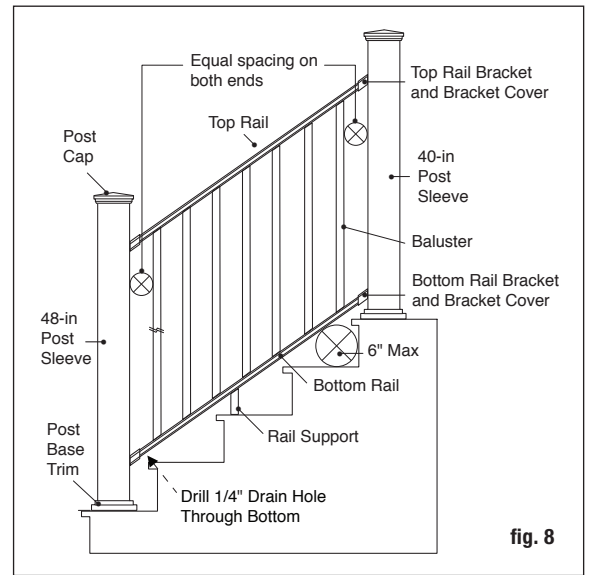
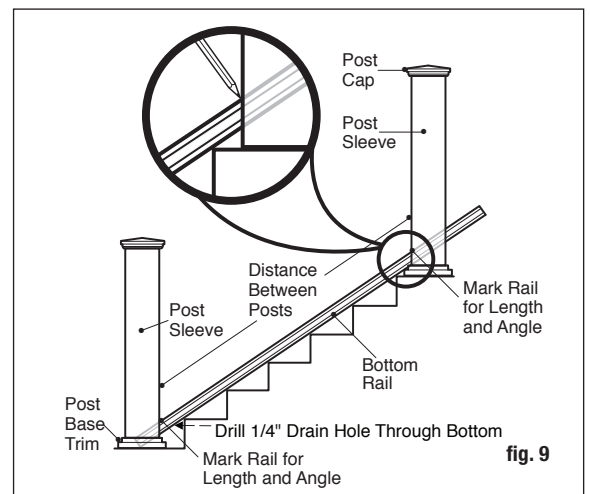

fig. 8
fig. 9
Step 6 Measure the distance between installed post sleeves to determine the length of the top and bottom rails. Ensure that the baluster holes are oriented correctly. Then place the bottom rail on the stair treads next to the posts and adjust so the distance between the first baluster hole and post is greater than 2-3/4" minimum and equal on both ends (fig. 8). Mark the rail to the proper length and angle. Cut the bottom rail. Cut the top rail to the same length and angle (fig. 9). **Drill one 1/4" drain hole through the bottom of the rail to prevent trapping water. Position the hole toward the lower end of the rail, roughly 2" from rail end to avoid the lower bracket.**
Step 7 Place the proper rail bracket covers and stair brackets on the ends of the bottom rail. Pay particular attention to the brackets being used as they differ based on top/bottom rail and up/down angle (fig. 10). Determine the position of the rail support and attach to the bottom rail. Prop the bottom rail between the posts on the stair treads (fig. 9). You may need to place equal shims between two stair tread noses to elevate the bottom rail. Check for requirements in your area. Typically, a 6" sphere may not be allowed to pass through the triangle formed by the bottom rail, tread and riser (fig. 8). Center the stair bracket on the post. Using the stair bracket as a guide, mark the screw positions on the post sleeve and rail on both ends. Pre-drill 1/8" pilot holes through the post sleeve and rail. Attach the stair bracket to the post sleeve using four #8-15 x 2" - #2 square drive flat head screws and then attach stair bracket to rail using two #8-16 x 3/4" - #1 square drive wafer head self-drilling screws.